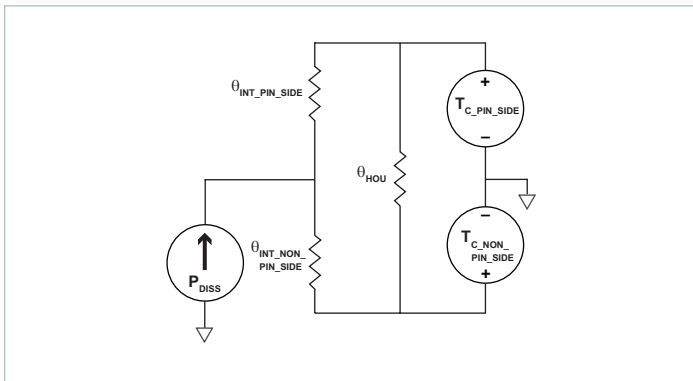
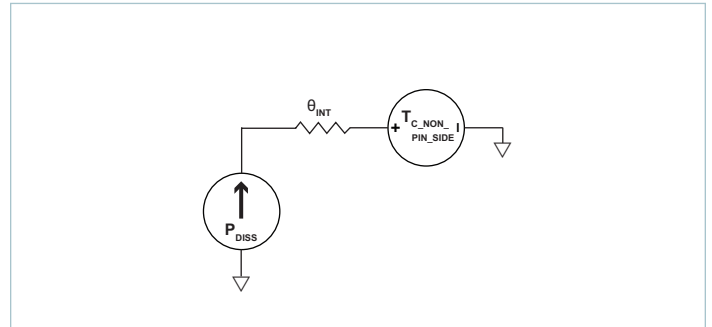

Figure 23 — Double-sided cooling thermal model
Figure 24 — Single-sided cooling thermal model
The VIA package provides effective conduction cooling from either of the two module surfaces. Heat may be removed from the pin-side surface, the non-pin-side surface or both. The extent to which these two surfaces are cooled is a key component for determining the maximum power that can be processed by a PFM, as can be seen from specified thermal operating area on Page 5. Since the PFM has a maximum internal temperature rating, it is necessary to estimate this internal temperature based on a system-level thermal solution. To this purpose, it is helpful to simplify the thermal solution into a roughly equivalent circuit where power dissipation is modeled as a current source, isothermal surface temperatures are represented as voltage sources and the thermal resistances are represented as resistors. Figure 23 shows the "thermal circuit" for the PFM in a VIA package.
- Single-side cooling: the model of Figure 23 can be simplified by calculating the parallel resistor network and using one simple thermal resistance number and the internal power dissipation curves; an example for non-pin-side cooling only is shown in Figure 24.